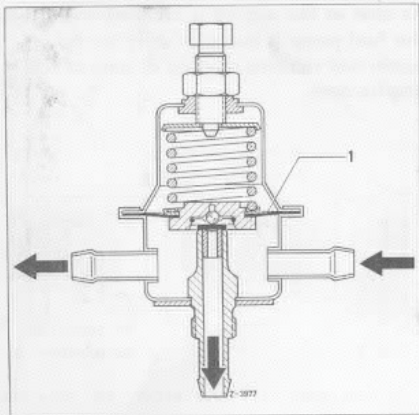

FIG. 5
3. The fuel pump pressure which is also the injection pressure, is limited to 28.4 psi by the PRESSURE REGULATOR (Fig.5). This pressure must be kept at the specified value because the whole electronic system is programmed to this pressure. Corrections can be made at the adjustment screw.